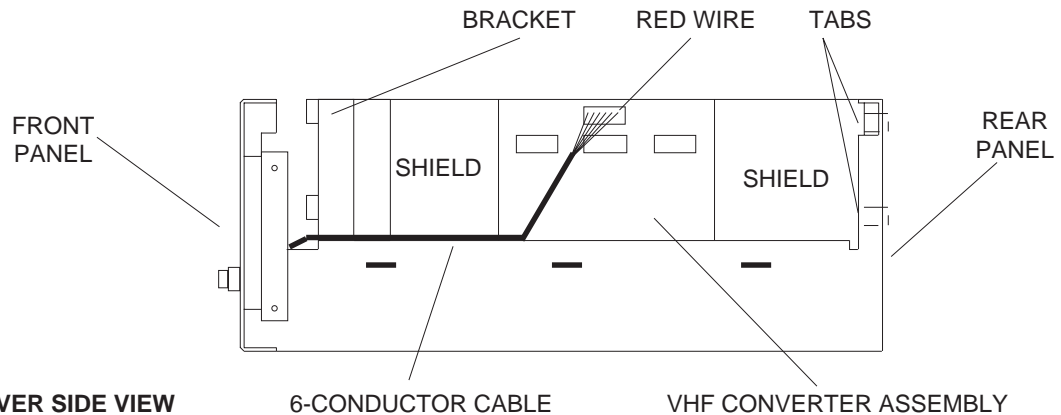

FIGURE 1, RECEIVER SIDE VIEW
1) Remove the top cover from the receiver by removing (5) #6-32 x 1/4" BLACK Pan Head Philips screws. Retain the cover and screws for reassembly.
2) Remove the bottom cover from the receiver by removing (6) 4-40 x 1/4" Pan Head Philips screws. Retain the cover and screws for reassembly.
3) Reposition any cables at the rear panel, as necessary, to allow the converter assembly to fit at the rear panel wall. Dress these cables away from the SO-239 antenna input connectors and gently pull any excess cable toward the bottom compartment of the receiver chassis. On the R8A/R8B, the VHF Converter Retaining Bracket is already installed in the radio, holding the right side of a front panel area board shield. Remove this bracket by removing the #4-40 x 1/4" screw at the base of the bracket. Retain the bracket and screw for later reassembly. Position the VHF converter assembly into the chassis as illustrated (Figure 1). The board mounted components should face toward the outside edge of the receiver, with the larger of the two component side shields toward the rear panel of the receiver. Align the two tabs into the slots located on the rear panel of the receiver.
4) Identify the 6-conductor cable (17" length) and plug it onto the VHF converter assembly connector header (Figure 1). Be careful to observe that the RED conductor end of the cable connector is oriented as shown in Figure 1.
5) Route the free end of the 6-conductor VHF converter cable vertically down behind the front panel (near the Volume Control) to the board assembly exposed by removal of bottom cover. See Figure 1.